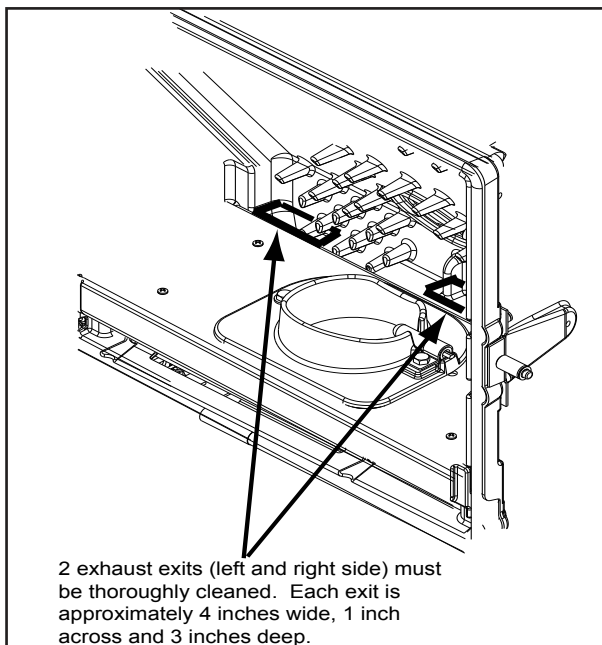

Figure 24.2
- d. Use the crevice tool to finish cleaning the heat exchanger fins. It is critical that the 2 exhaust exits at the back of the firebox floor (left and right) be thoroughly cleaned. **Figure 24.2.** There are several ways this can done.